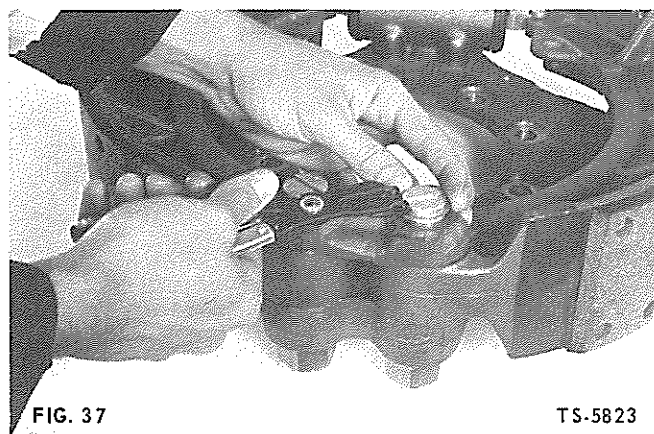

FIG. 37
3. Remove anchor pin retaining ring and strut (Fig. 37).